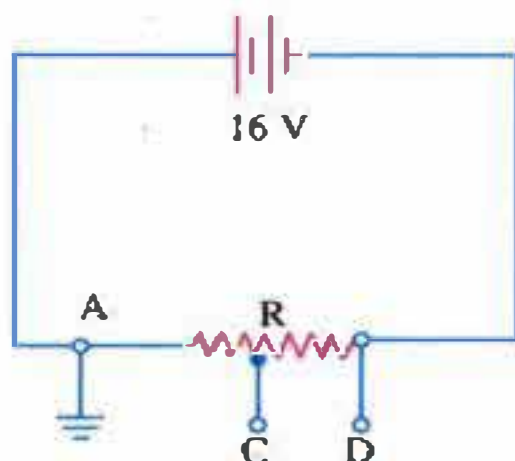

Fig. 1.15
- Find the potential of points (i) C and (ii) D in Fig. 1.15 if C is located at mid-point of the resistor R . What is the direction of current flow through CD ? [-8 V ; -16 V ; C to D]